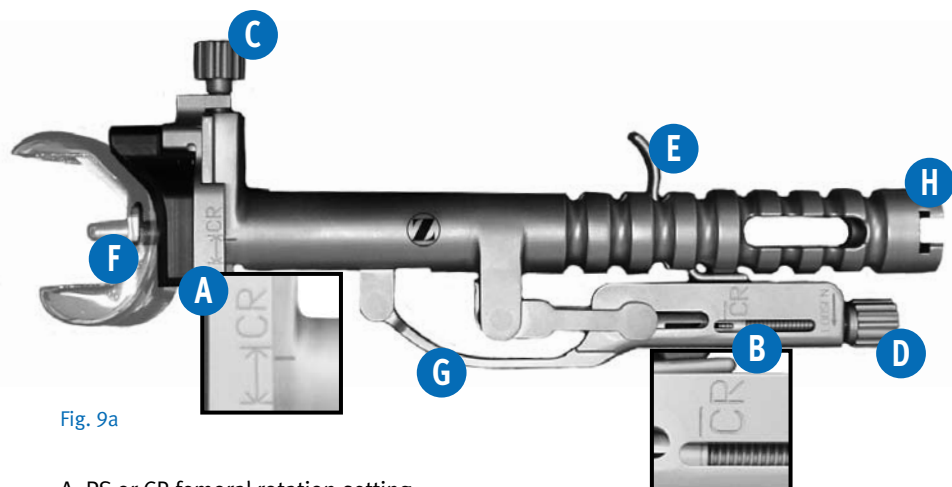

Fig. 9a
Determine type of *NexGen* implant or provisional being used – Posterior Stabilized (PS) or Cruciate Retaining (CR). Refer to the side of the instrument, labeled PS or CR (see (A) & (B)) which corresponds with the implant or provisional type (Fig. 9a).